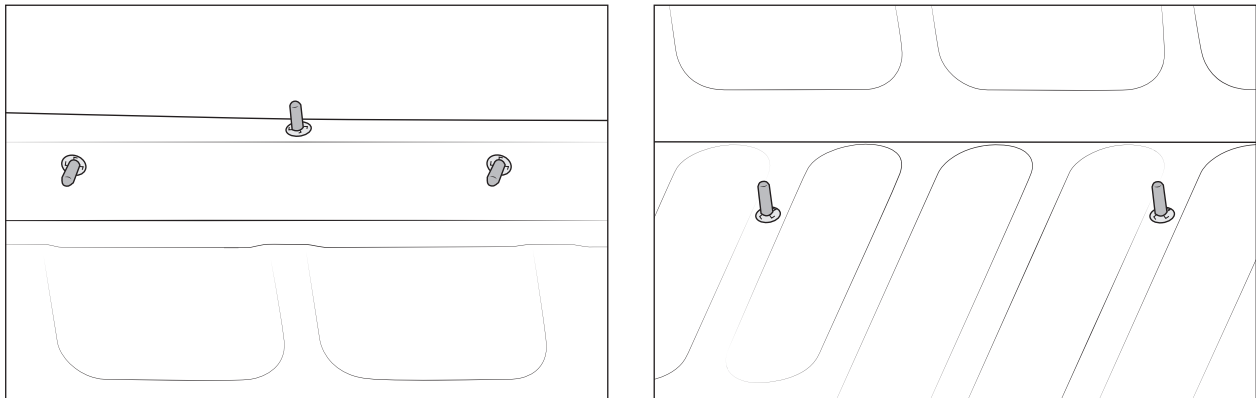

Figure 7
7. Use provided fish wire to pull one M10x35 bolt and backer plate through top hole on bulkhead, and two M10x40 bolts and backer plates through the face holes of the bulkhead. Secure with retaining washers (fig. 7-left).
8. Next use the fish wire pull two M10x40 bolts and backer plates (with shank) through the bed and hold in place with retaining washers (fig. 7-right).